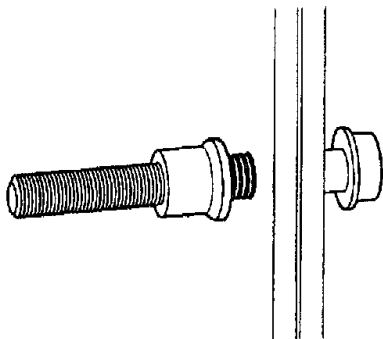

Figure 9 Place Collar Over Fastener Pintail
2. Place the collar over the fastener pintail (See Figure 9, page 18).